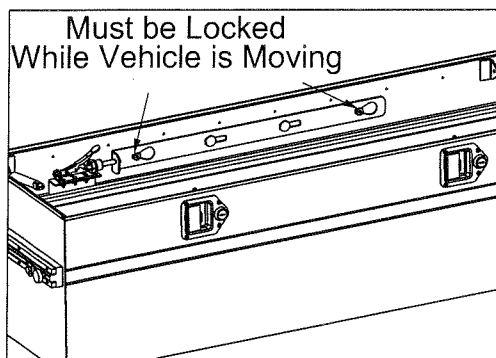
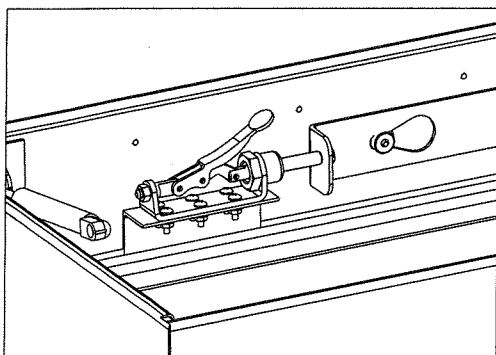

Fig. 11
Fig. 12
14. To lock the Tool Box (#1) into position, slide the Tool Box (#1) forward until it comes in contact with the Mounting Brackets (#2). Push the Tool Box (#1) toward the front from the center while pushing the lever down to slide the rear sliding bracket to lock around the shoulder bolts. (See Fig. 11 & Fig. 12) Then tighten the Anchor Plates w/Studs (#7) into the utili-track by turning the Knobs (#6) clockwise until tight.